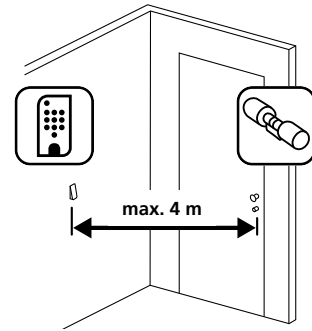

Fig. 1
- 1 Place the keypad in the desired installation location (Fig. 1).
- 1 Drill three holes according to the dimensions shown in the illustration. Use a 6 mm diameter drill bit (Fig. 1).